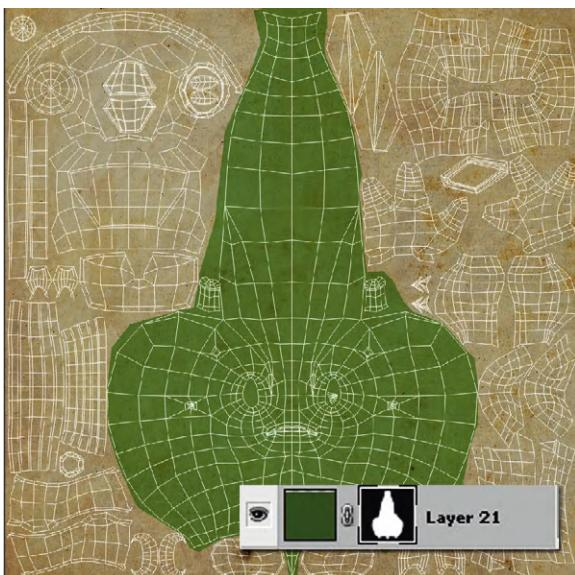

FIG 6.37 The results of a Layer Mask (the inset shows what the layer should appear like in the Layers Palette).
Step 6: Limit the green texture to the face. We'll do this with a Layer Mask. Start by using the Lasso Tool to roughly select the UV faces that represent the aliens face. Then, in the Layers Palette, click the Add Layer Mask button to the green layer. The results should look like Fig. 6.37.